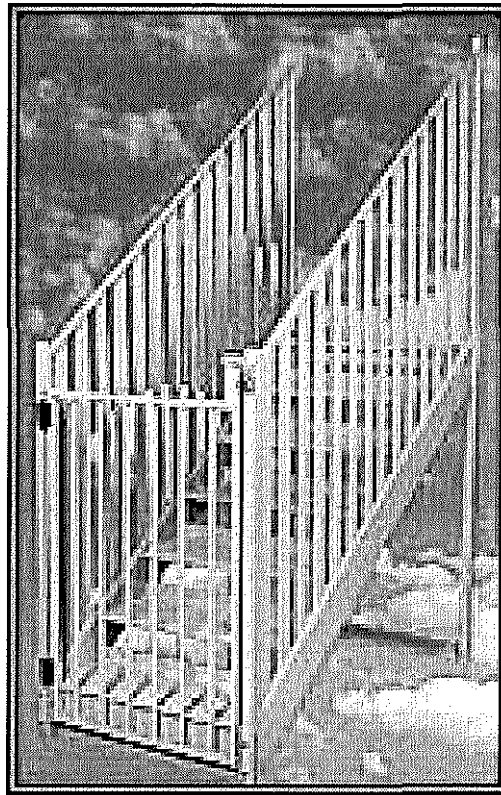

Figure 11
3. There is a gate at the bottom of the stairs that meets the requirements of a barrier above. (Figure 11)